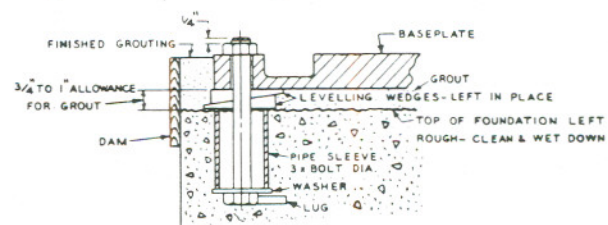

Fig. 3-2
A template should be made to position and hold the foundation bolts in place while pouring the concrete. Location and sizes of bolt holes are shown on the certified outline drawing supplied to the purchaser. Each bolt is installed in a pipe sleeve, the inside diameter of which should be three times the outside diameter of the bolt. The pipe sleeve allows for minor adjustments in bolt spacing after foundation is in place (Fig. 3-2). Two methods commonly used to secure and prevent bolts from turning are:
- a. A washer is placed between the bolt head and pipe sleeve with a lug welded to the bolt head (Fig. 3-2).
Stuff waste between foundation bolts and sleeves to prevent concrete from entering while foundation is being poured. Foundation bolts must be long enough to allow from  $\frac{3}{4}$ " to 1" for grouting under the baseplate (Fig. 3-2). When pump is level the bolts should extend  $\frac{1}{4}$ " through the nuts. Leave top surface of foundation rough for adherence of grout.
1. **Leveling** — Move pump next to foundation. The surface of the foundation should be thoroughly cleaned and roughed. Set leveling wedges (fig. 3-2) adjacent to foundation bolts and remove waste from pipe sleeves. Lift pump from skids and clean underside of baseplate. Lower pump over foundation bolts onto wedges. Adjust wedges to allow  $\frac{3}{4}$ " to 1" of grout, being sure pump flanges are plumb. Care must be taken at all times to prevent damage or distortion of the pump. A spirit level placed on the machined suction flange may be used to insure that the pump is level end to end and side to side.
2. **Grouting in the Baseplate** — Build a board dam around the foundation to the desired height for finished grouting (See Fig. 3-2). A mixture of one part portland cement to two parts clean sand with just enough water to mix to a thick creamy consistency should be made for grout. Wet the underside of the baseplate and foundation top, then pour the grout through the holes in the baseplate. Thoroughly puddle the grout during pouring to prevent air pockets and hollow spots. After grout has set sufficiently, remove the board dam and finish off the grout as desired. When grout has hardened, usually in about 48 hours, pull up on foundation bolts.